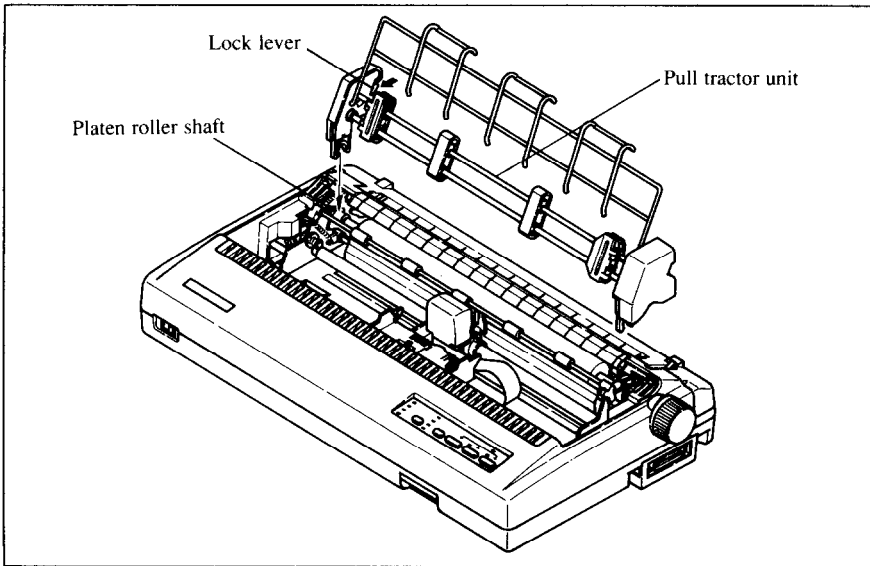

Figure 1-15. Mounting the optional pull tractor unit
3. Mount the optional pull tractor unit onto the printer. Grip the lock levers on both side and push the unit downwards onto the platen roller shaft to fit the tractor grips, as shown in Figure 1-15.